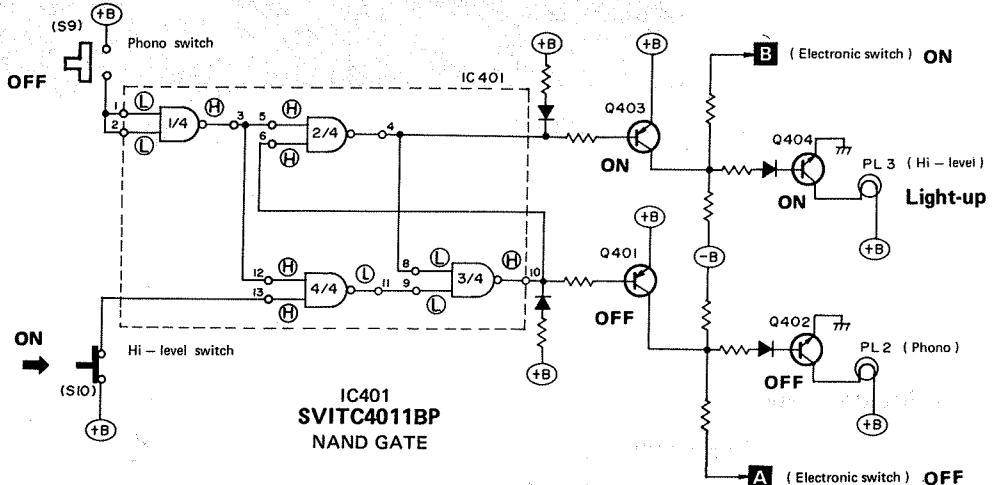

Fig. 2
- (2) When the "hi-level" button is pressed, **A** switch turns OFF, and **B**, ON. (See Fig. 2.)
- (2) When the power switch turns ON, the voltage immediately rises at point **A** of the "initially set circuit", while it takes time for the rise of voltage at point **B**. During that time, Q405 turns ON, causing the collector potential to increase. The voltage is applied to the Hi-level switch S10, making the circuit the same as shown in Fig. 2. On the other hand, the voltage is also applied to the IC403 clear terminal of the flip flop. When the clear terminal changes to "high", the output becomes "low" regardless of other input, thus making the circuit as shown in Fig. 4.
- (3) The base voltage of Q405 rises as C404 and C411 are charged. Q405 turns OFF when potential difference between points **A** and **B** becomes less than 12 V (Zener voltage of D408).